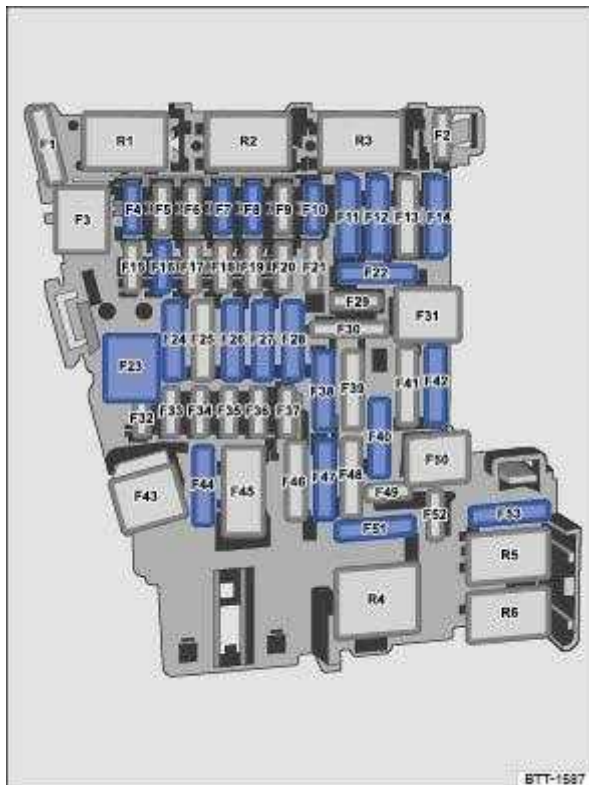

Fig. 173 In the dash panel: fuse assignment.
Fuse location ⇒ Fig. 173
1) Note installation position. Factory-fitted fuse location as shown in illustration ⇒ Fig. 173 .